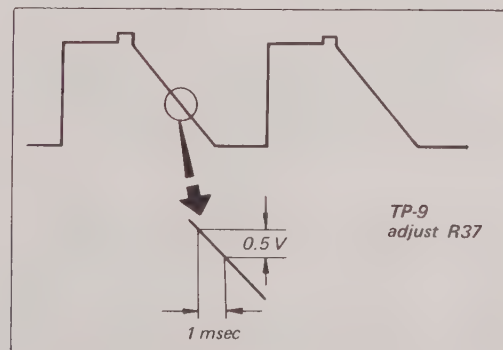

Fig. 7-3. Ramp slope adjustment
3. Adjust R37 for a slope of 0.5V per msec (5 volts in 10 msec). Refer to Fig. 7-3.